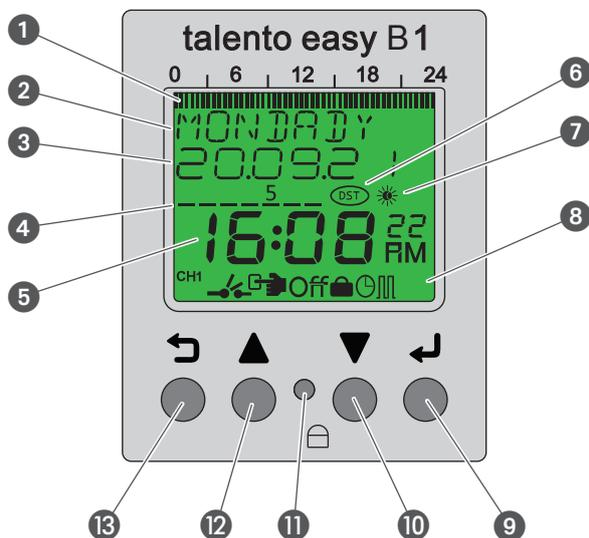

Fig. 2: Display layout
- ④ Day of the week
- ⑤ Time
- ⑥ Summer/winter
- ⑦ Day/night
- ⑧ Symbol bar
- ⑨ Enter button
- ⑩ Down button
- ⑪ Reset button
- ⑫ Up button
- ⑬ Menu button
### Function buttons (Fig. 2/⑨ + ⑩)
### Symbols (Fig. 2/6 + 7 + 8)
The menu structure appears on the display when you press the menu button  (Fig. 2/.